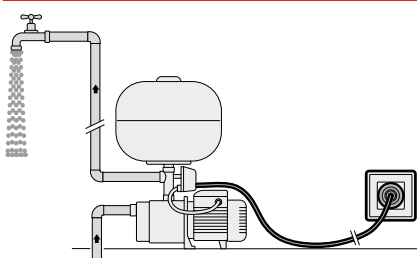

Fig. 1
- ✘ Operate the pump with the delivery point open (**Fig. 1**).